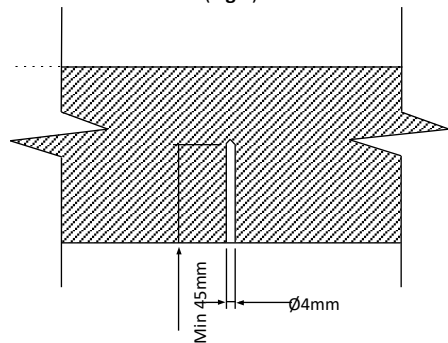

Fig 4
1. Drill a $\varnothing 4\text{mm}$ hole in the bulkhead (Fig 4) at the 4 anchor locations (Fig 3).